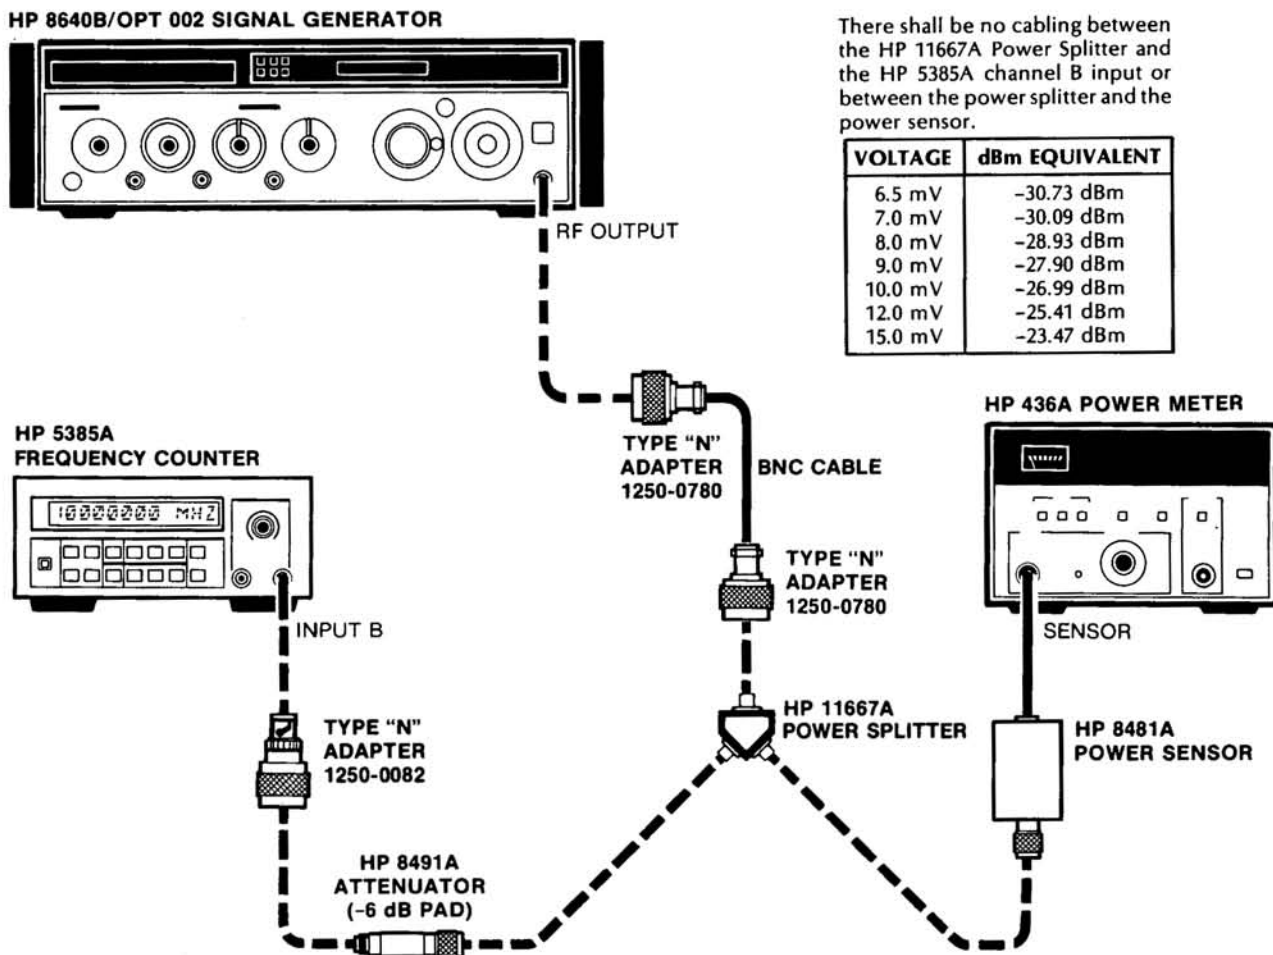

Figure 4-4. Channel B Frequency Response and Sensitivity Test Setup for HP 5385A
1. Connect the signal generator and the power meter to the HP 5385A channel B input as shown in Figure 4-4.